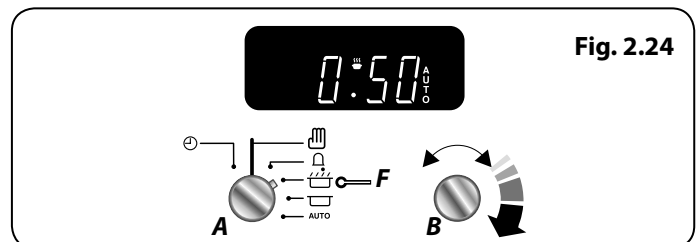

Fig. 2.24
1. Turn the **Timer (A)** knob to the **Cook Time (F)** setting. Turn the **Adjusting (B)** knob clockwise to set the length of the cooking time required e.g. 50 seconds (**Fig. 2.24**).